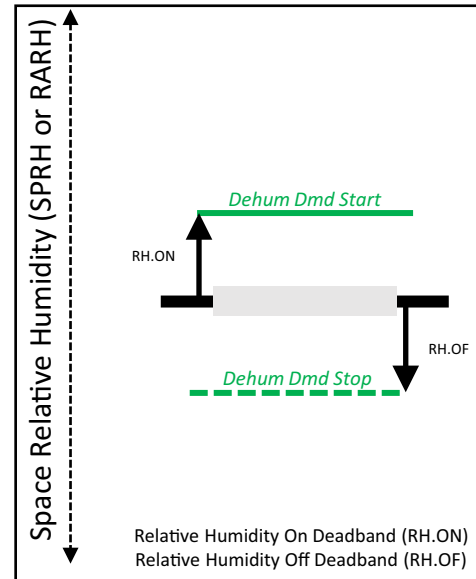

Fig. 82 — RARH Demand Processing
When the dehumidify demand source is set to RARH, the control monitors the local or network RARH input and compares it to the dehumidify relative humidity (RH) setpoint to determine if there is a dehumidify demand. Deadbands adjust when the demand starts and stops compared to the dehumidify setpoint. RARH is recommended for single or multi-zone applications. See Table 43 for RARH demand levels and Fig. 82 for RARH demand determination.